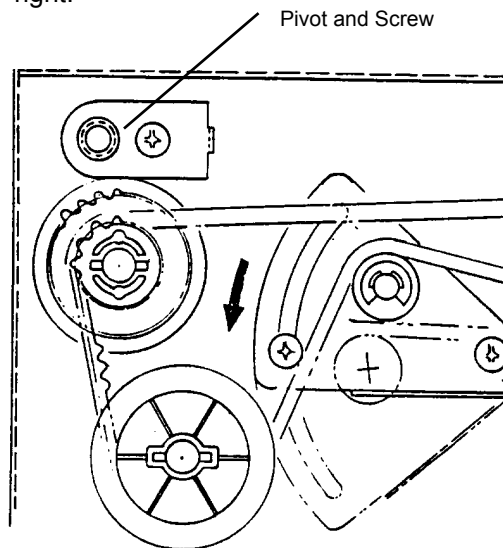

Figure 1. A Pivot Removal
3. (Figure 1): Remove a screw and a Pivot.